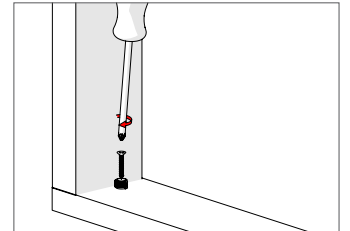

fig 6
1. Fix one of the base fixings for the Guide wire hold down, so the guide wire is parallel to the edge of the recess, using 3.2mm diameter countersunk head fixing of the appropriate length and type for the substrate being fixed to (fig 6).